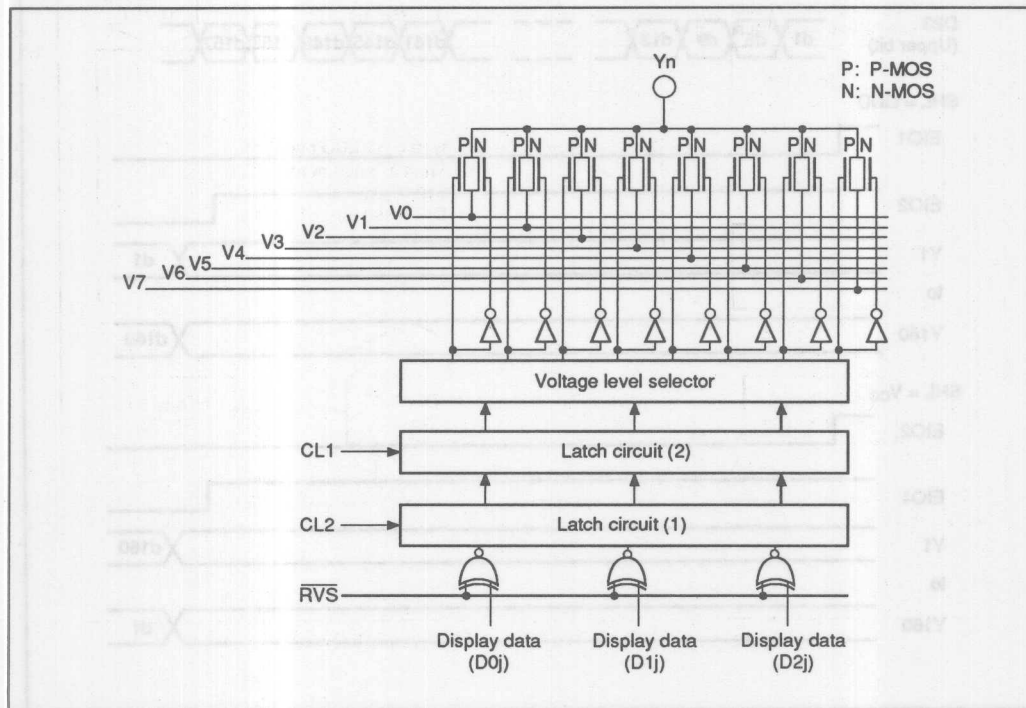

Figure 4 LCD Driving Circuit
The HD66310 internal circuit unit for one data output is shown in figure 4. The circuit receives 3-bit data (D0j, D1j, D2j) and selects one of eight voltage levels (V0-V7) to output to the LCD.
- As shown in figure 4, the data reverse circuit is before the latch circuit (1). The LCD driving output is reversed one CL1 period after a transition of the  $\overline{\text{RVS}}$  signal, as shown in figure